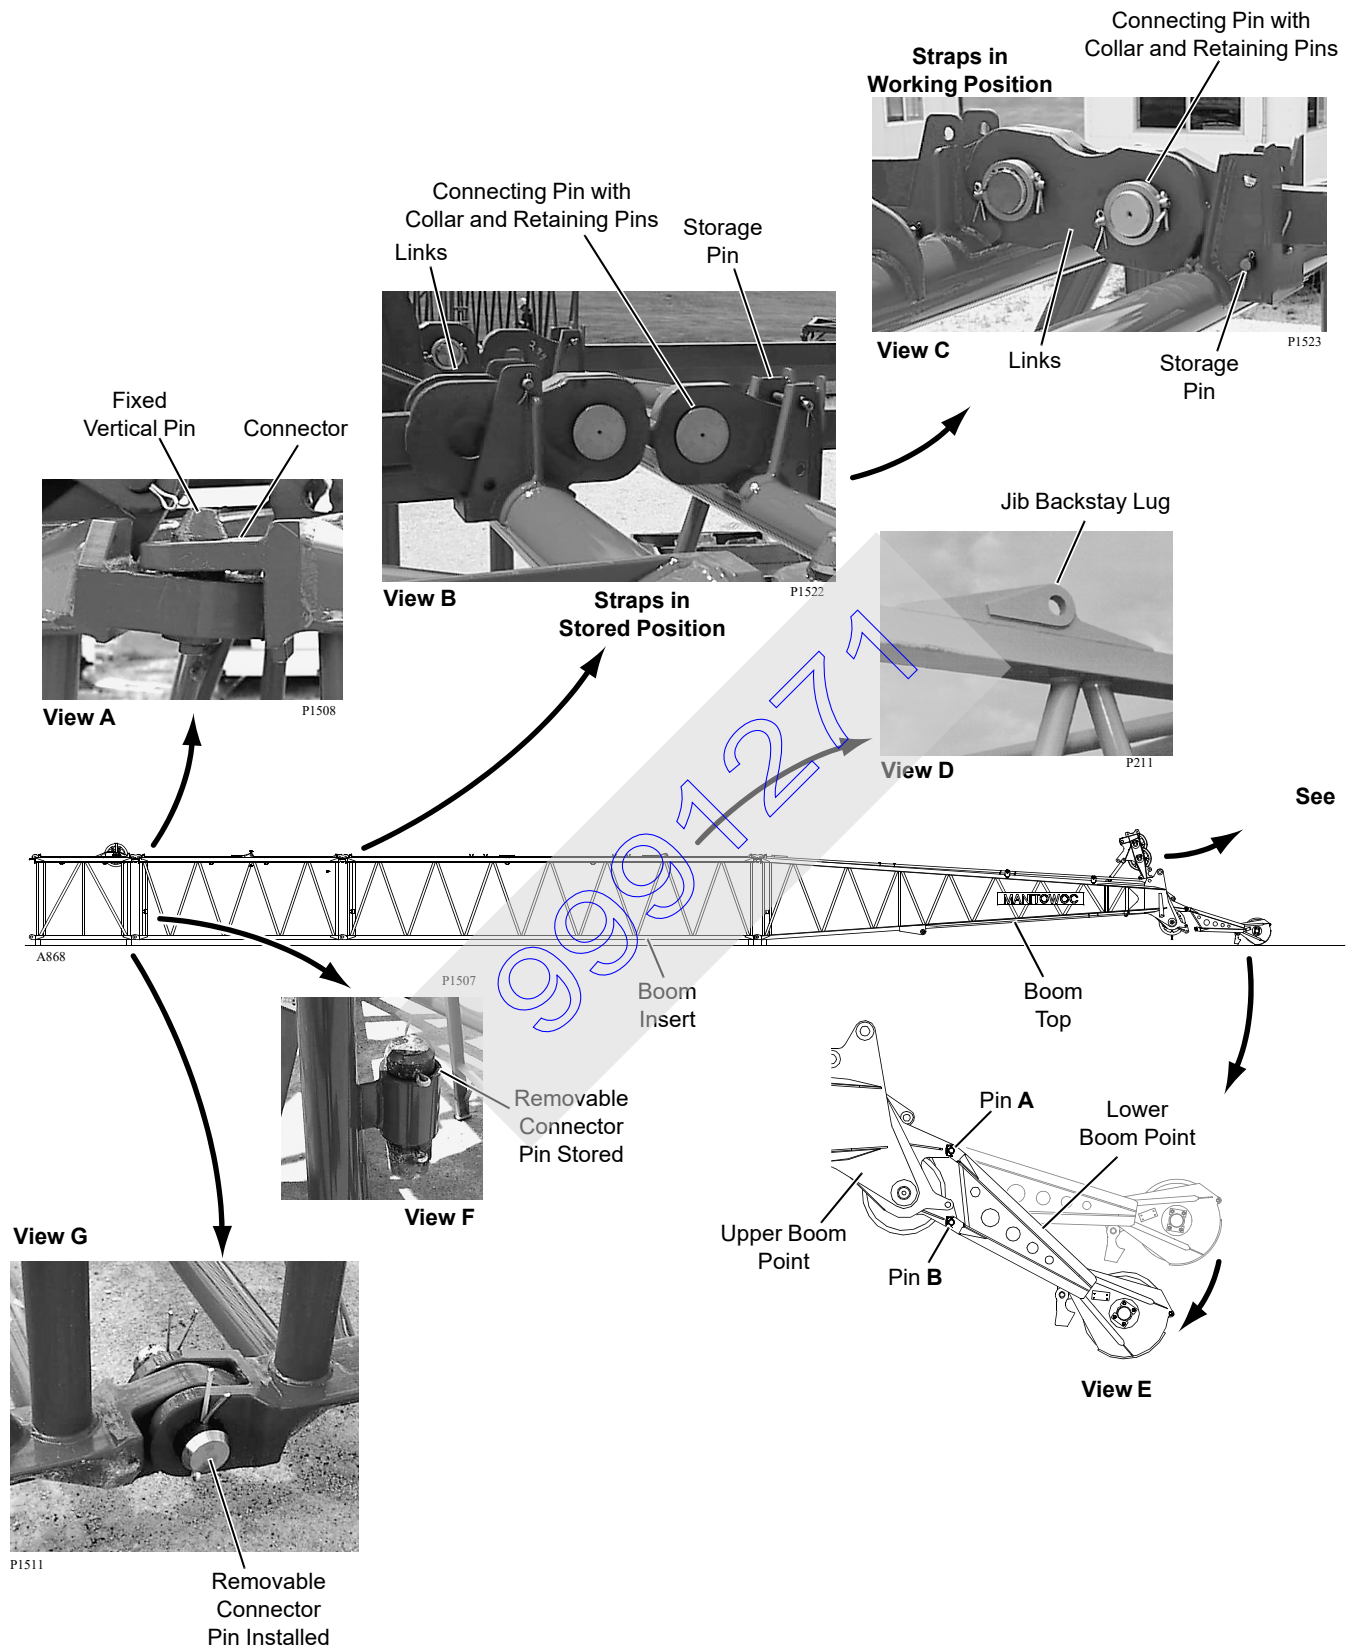

FIGURE 4-33
1. Before you start assembling boom, determine if a fixed jib will be installed. If so, install insert with backstay lugs (Figure 4-33, View D) next to boom top.
See Figure 4-33 for the following procedure.
- **If equipped with an upper boom point**, remove lower connecting pins (B, Figure 4-33, View E) before upper point contacts ground.
- Store boom straps and links as shown in Figure 4-33, View B.